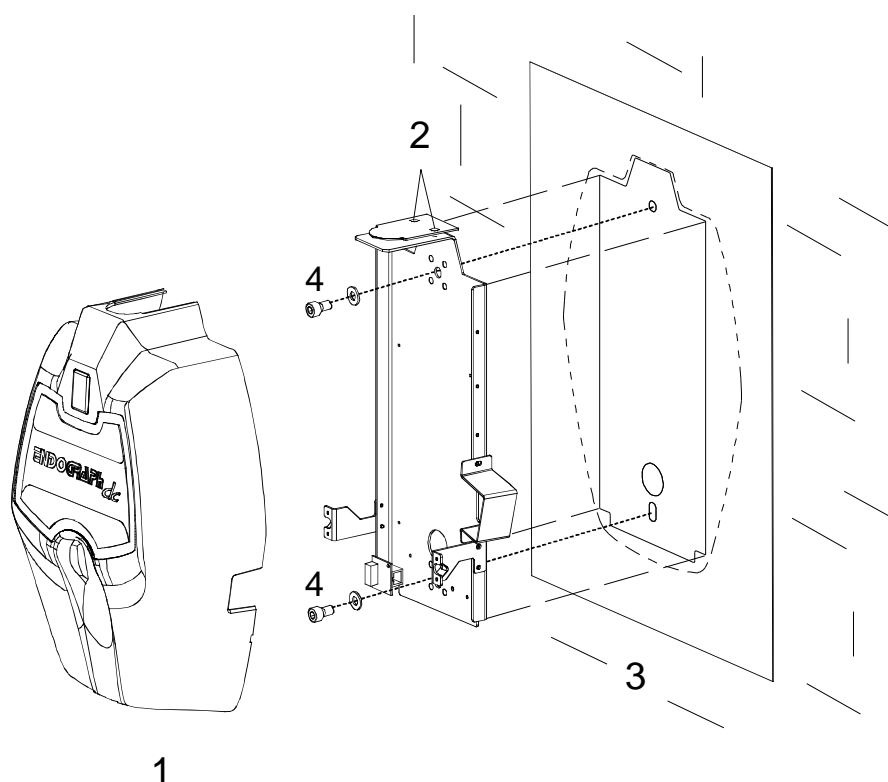

Figure 6-18
- 1** To be sure that the equipment is in the correct position we recommend you put the provided template code 39599101 (**3** - Figure 6-18) in the requested position, in this way identifying the requested wall-mounting position. Considering the overall dimensions of the equipment, put the top part of the template at 1450 mm from the floor.
- 3** Remove the plastic timer cover (**1** - Figure 6-18) by loosening the two sealing screws (**2** - Figure 6-18) placed on the top part.
- 4** Fix the timer to the wall using the provided screws (**4** - Figure 6-18) verifying its perpendicularity with the wall accordingly to both axis.
6. Assemble the two pins lock (**1** - Figure 6-20) on the Remote Timer cover (**1** - Figure 6-18); these pins (code 2100511300) are included in the mounting hardware packaging.